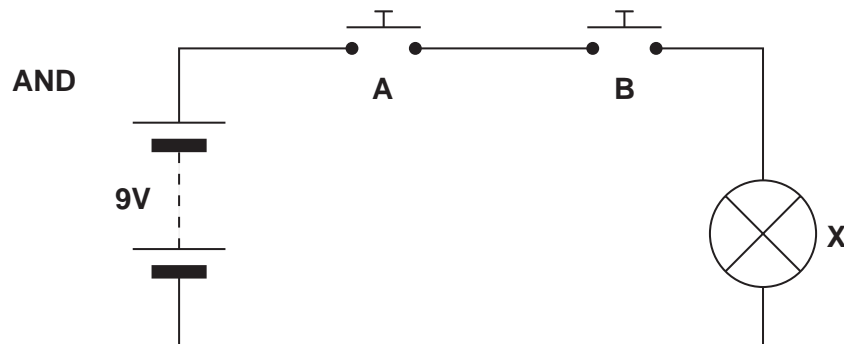
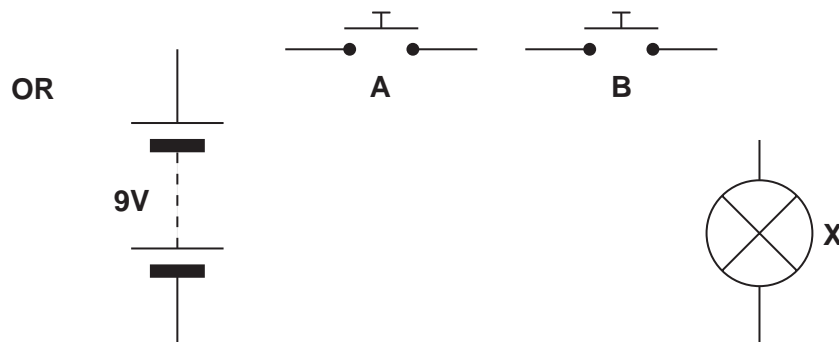

Fig. 6a
Fig. 6b
- (ii) Fig. 6a uses push to make (PTM) switches and a bulb to create an AND gate arrangement. Complete the circuit shown in Fig. 6b to create an OR gate arrangement.